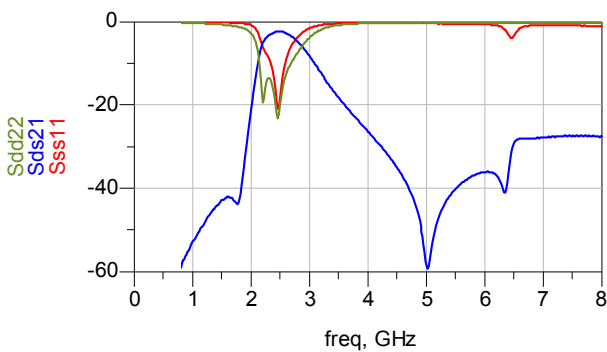
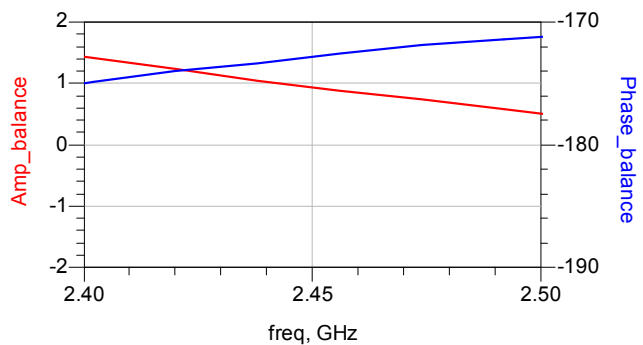

Fig. 3-1
Fig.3-2
- d) Electrical Performance: See Fig. 3-1, Fig. 3-2